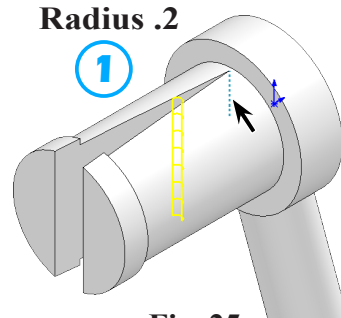

Fig. 25
Step 1. Rotate view to back side cut, **Fig. 25**. To rotate view, in **Isometric** , **Shift-Ctrl** click the **Y axis of the Reference Triad**  (bottom left corner of graphics area).
click **vertical edge of cut**, **Fig. 25**